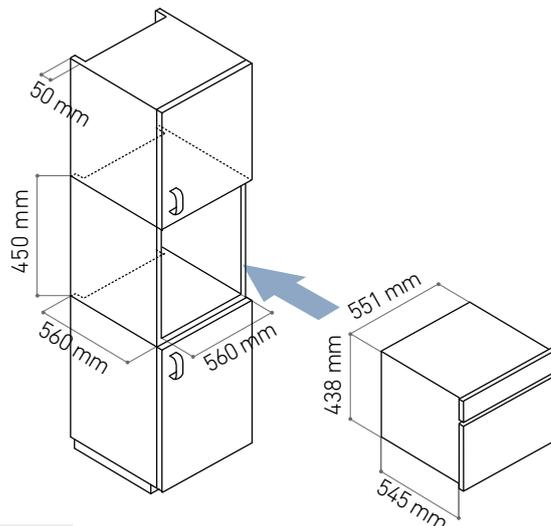

fig.5 Size of the built-in niche
**Note:** for the proper operation of the appliance an air flue of at least 250 cm2 is required (Fig. 5) on the rear of the appliance.